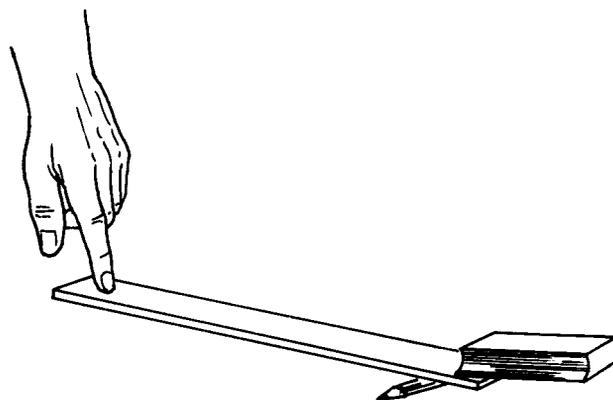

Figure 6-10
2. Place one end of a wooden ruler under the edge of the book. Slip a pencil under the ruler about 3 cm from the edge of the book (Fig. 6-10).
Compare this diagram with Fig. 6-10, in Procedure 2.